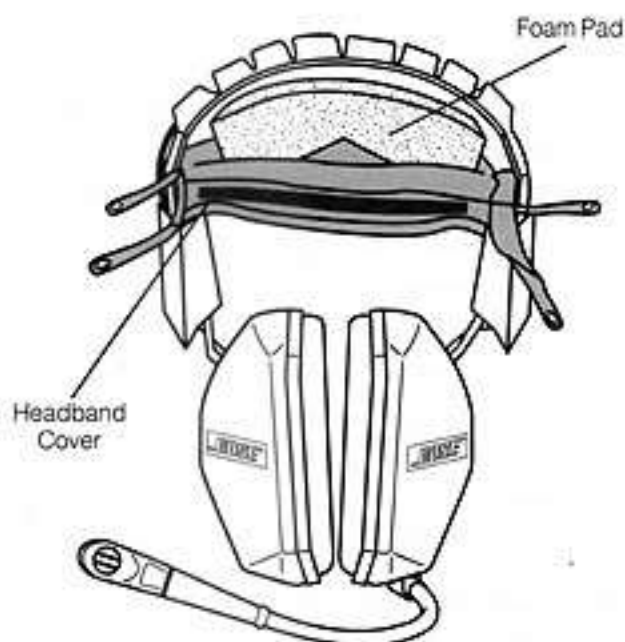

Figure 9
6. Place the foam pad in the headband cover (see Figure 9). Wrap the cover around the headband with the opening toward the rear. Smooth the Velcro down and snap the cover together at both ends.
11. Replace the foam pad and wrap the cover around the headband with the opening to the rear. Snap it at both ends and seal the Velcro (see Figure 9 on page 7).